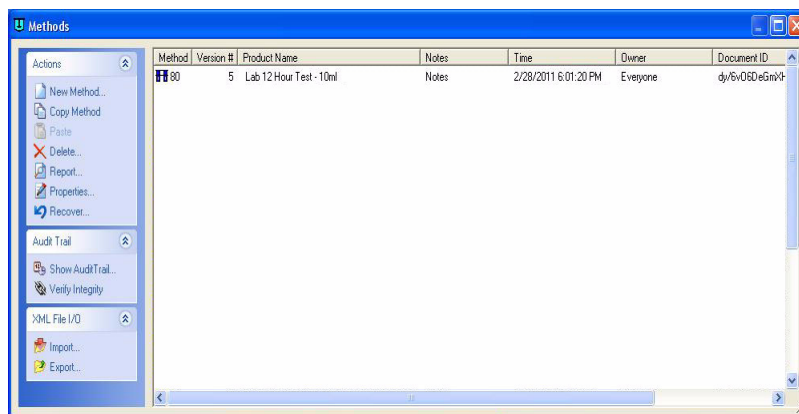

Figure 21 Methods screen
- 1 From the navigation bar, click **Editor**. The Methods screen displays (see Figure 21, “Methods screen,” on page 69).